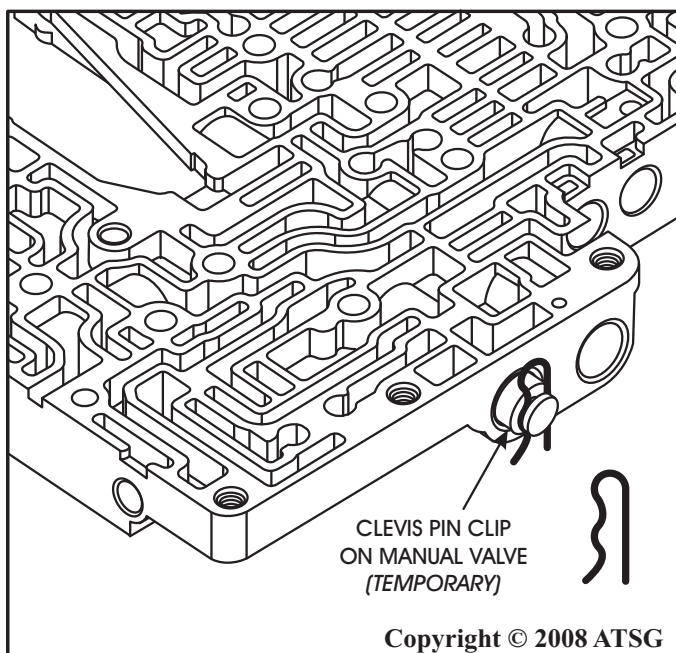

Figure 100
29. Install an appropriate size clevis pin clip into groove in the exposed end of manual valve, as shown in Figure 100.